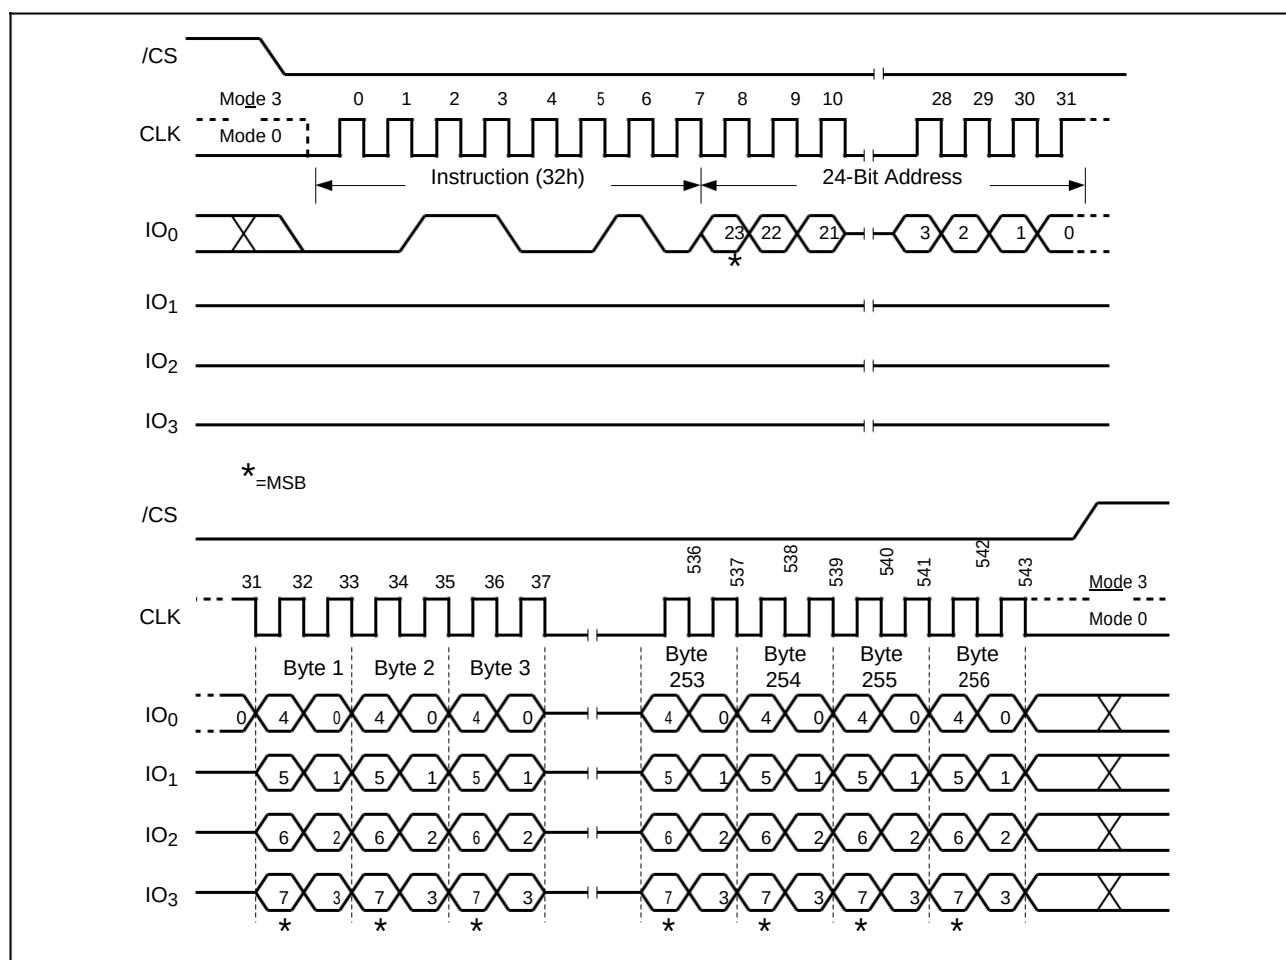

Figure 31. Quad Input Page Program Instruction (SPI Mode only)
To use Quad Page Program the Quad Enable (QE) bit in Status Register-2 must be set to 1. A Write Enable instruction must be executed before the device will accept the Quad Page Program instruction (Status Register-1, WEL=1). The instruction is initiated by driving the /CS pin low then shifting the instruction code “32h” followed by a 24/32-bit address (A23/A31-A0) and at least one data byte, into the IO pins. The /CS pin must be held low for the entire length of the instruction while data is being sent to the device. All other functions of Quad Page Program are identical to standard Page Program. The Quad Page Program instruction sequence is shown in Figure 31.